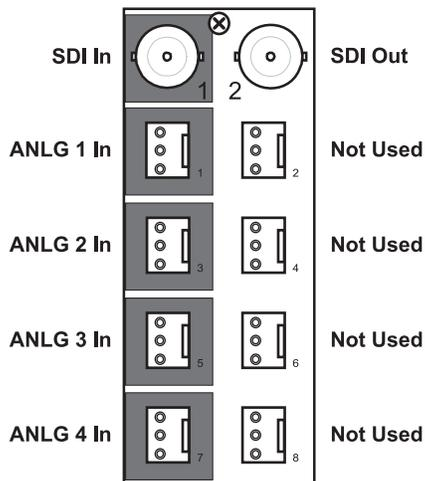

Figure 8 Cable Connections for the MUX-8258-4C
- **DFR-8310 series frame** — The **8310AR-034** Rear Module is required. Each rear module occupies one slot and accommodates one card. This rear module provides one SDI input, one SDI output and four analog inputs. (**Figure 8**)
- **DFR-8320, OG3-FR, and OGX-FR series frames** — The **8320AR-034** and **8320AR-034A** rear modules are supported. Each rear module provides one SDI input, one SDI output, and four analog inputs. (**Figure 8**)